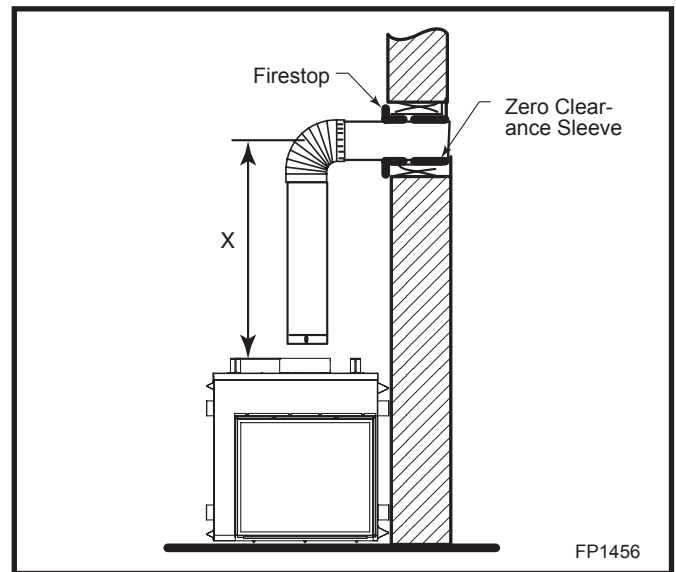

Fig. 20 Vertical height requirement.
Place fireplace into position. (Fig. 20) Measure the vertical height (X) required from the base of the flue collars to the center of the wall opening. **NOTE:** If using the SK8DVSK Kit, the vertical section of pipe is telescopic and could provide adjustment from 24" up to 40" (610 mm to 1016 mm).
Place fireplace into position. (Fig. 20) Measure the vertical height (X) required from the base of the flue collars to the center of the wall opening. **NOTE:** If using the SK8DVSK Kit, the vertical section of pipe is telescopic and could provide adjustment from 24" up to 40" (610mm to 1016mm). Through the wall section shipped with the starter kit will not be used when going through the wall.